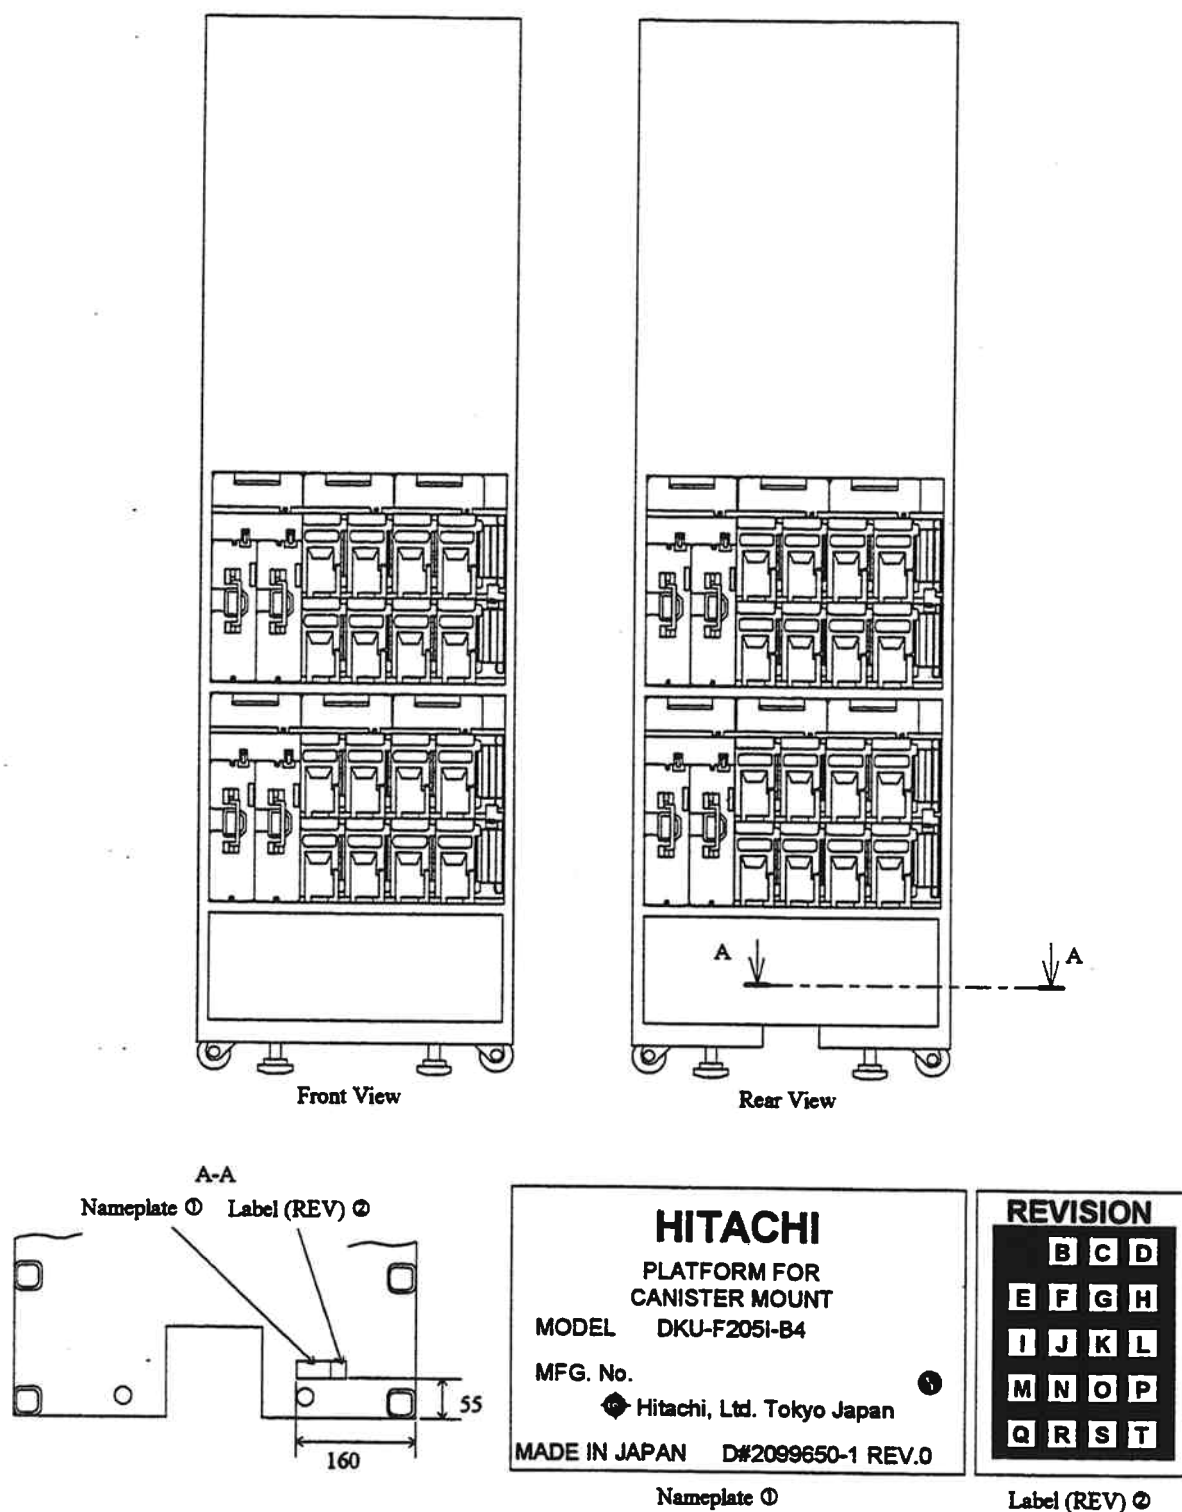

Fig. 3.4.6.3-14 Removal of the Nameplate and Label (REV)
- a. Remove the nameplate ① and label (REV) ② of additional HUD box, referring to a Fig. 3.4.6.3-14.